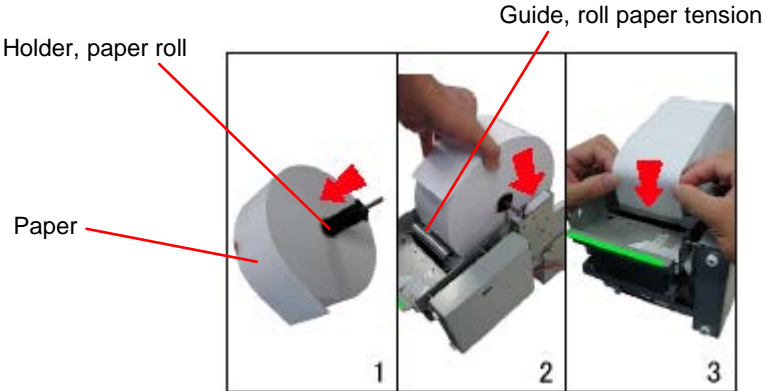

Figure A.1.2 Loading paper for Paper Roll Supply Module
3. Load the paper roll in the Holder, paper roll with the printing face of the paper facing upwards. (See Figure A.1.2.)
3. After inserting the paper edge straight into the paper slot of the printer module so that the paper is against the **Guide, roll paper tension**, push the paper with your hand. (See Figure A.1.2.)